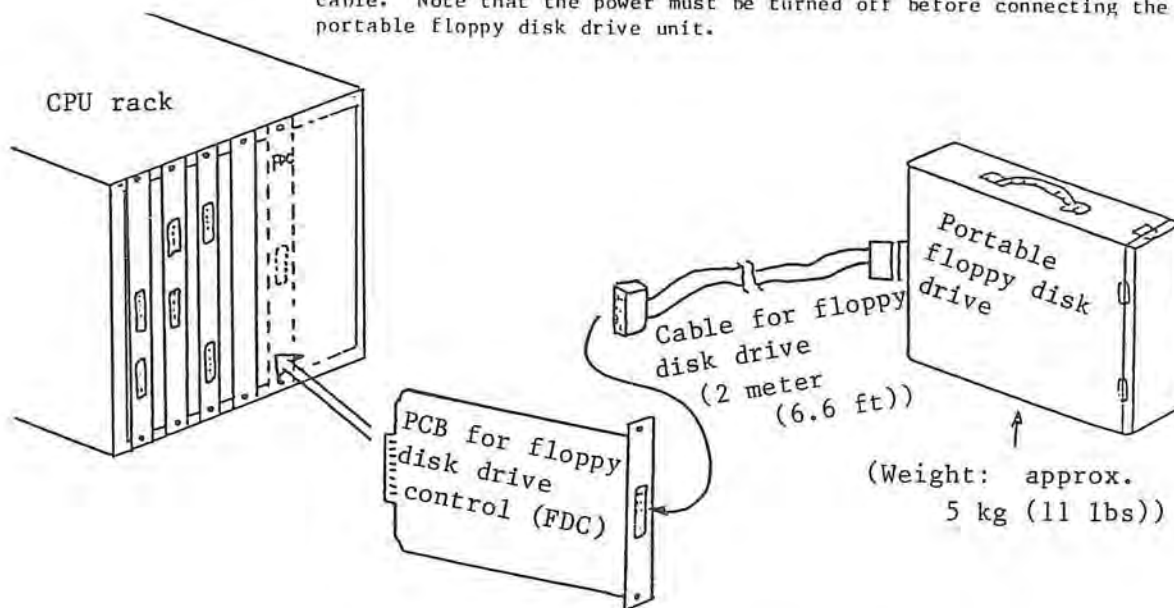

Fig. 5-17 Connection of Portable Floppy Disk Drive
- 1) Turn off power supply and connect the portable floppy disk drive to the OSP500L-G/OSP5000L-G as shown in Fig. 5-17.